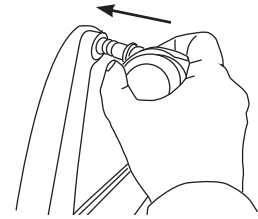

Fig. 1
1. Insert the (5) Casters into the Caster Base (figure 1).